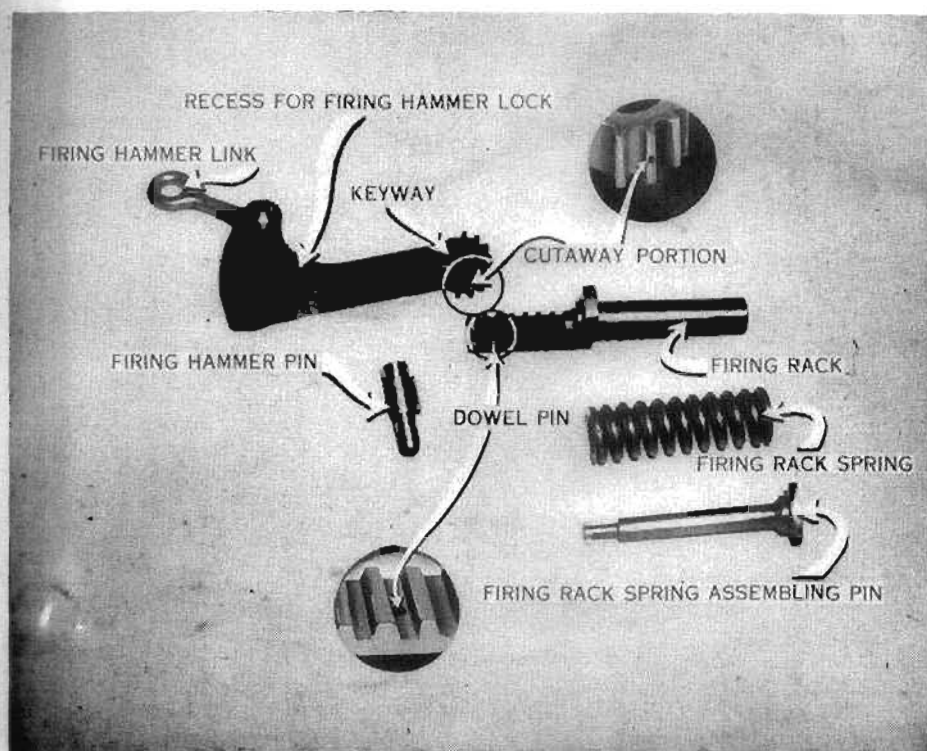

Figure 17
5. Firing hammer link—permanent part of firing hammer; if broken, replace entire firing hammer (fig. 17).